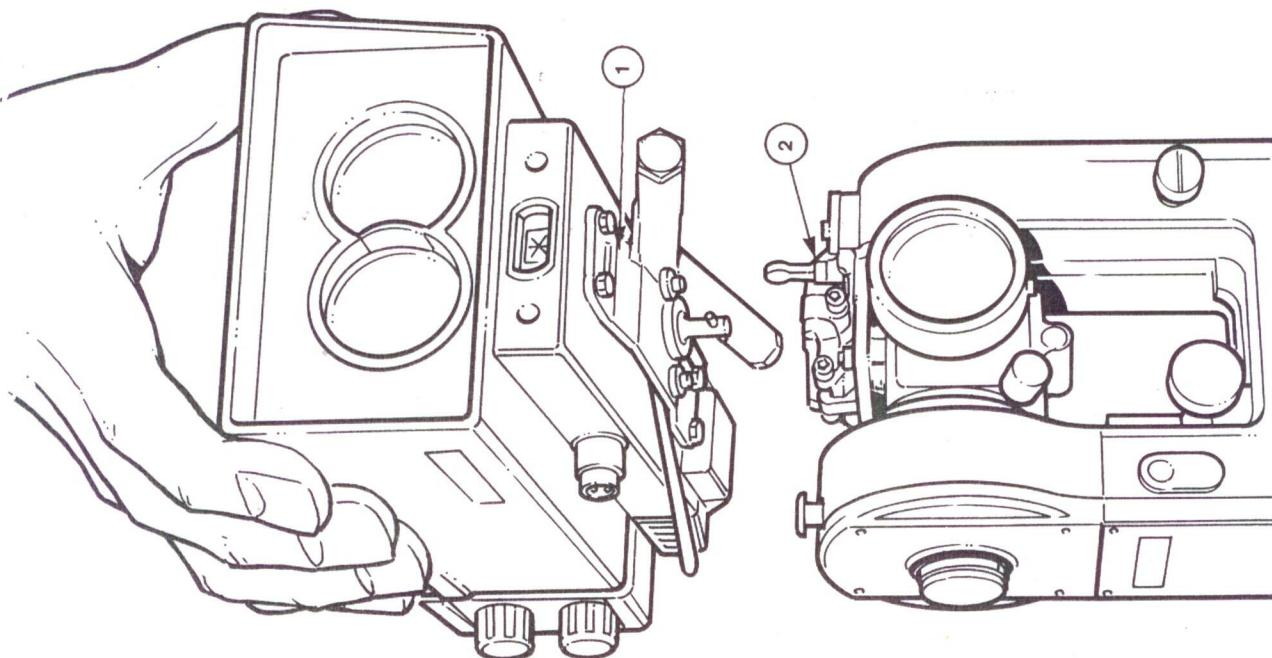

Fig. 2.1 Geodimeter 220 - General Mounting Detail
The adapter consists of two main components: the instrument adapter (1) and the theodolite adapter (2). Fig. 2.1 details the general mounting detail.